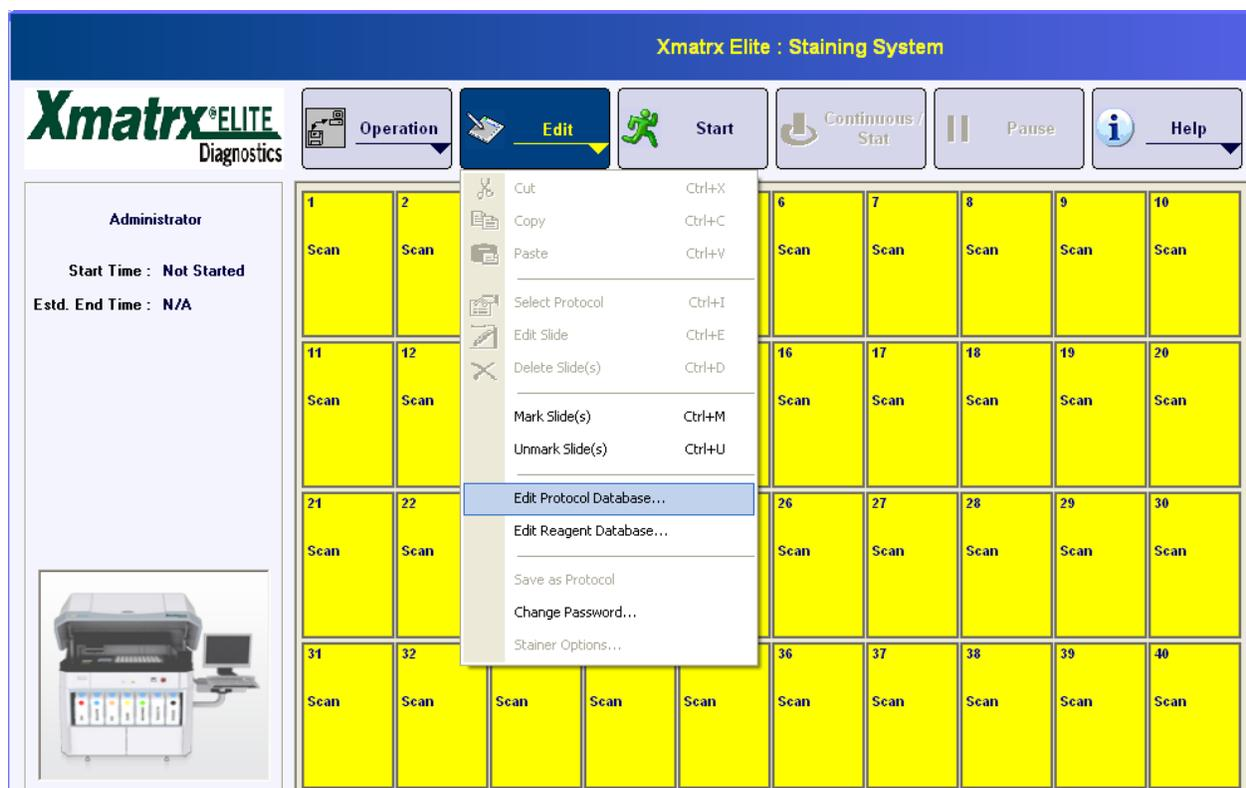

Figure 22: <Edit protocol database>
- i. From the “**Edit**” menu in the “**Xmatrix: Staining System**” window select **Edit Protocol Database** from the drop down menu (Figure 22: <Edit protocol database>) <**Edit Protocols**> window opens
- i. From the **"Edit"** menu in the **"Xmatrix: Staining System"** window select **Edit Protocol Database** from the drop down menu **Figure 22: <Edit protocol database> <Edit Protocols>** window opens